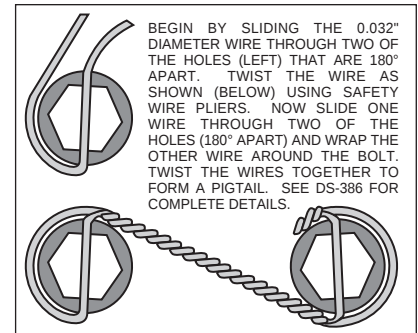

Figure 3. Safety Wire Diagram
- Apply red *Loctite*® 271 to bolt threads (2 and 3) before assembly of the caliper mounting bracket (1). Mount bracket (1) to dust face plate of spindle by screwing bolts (2) into steering arm, finger tighten only. Install bolts (3) through caliper mounting bracket (1) and steering arm, secure with washer (4) and nut (5), finger tighten only. Torque bolts (2 and 3) to 30-35 ft-lb. **NOTE:** Be sure the heads of the bracket (1) insert nuts are facing outward toward the wheel.
- Install wheel studs (6) into the hub (7). Torque to 77 ft-lb. **NOTE:** There are two five lug patterns in the hub (5 x 4.50 and 5 x 4.75). Make sure of the correct hole pattern for the correct wheel application before installing studs into hub.
- Pack the large inner bearing cone (8) with high temperature disc brake bearing grease (available from your local auto parts store) and install into the backside of the hub (7).
- Install the grease seal (9) by pressing into the backside of the hub (7).
- Attach rotor adapter plate (10) to rotor (11) using bolts (12). Apply red *Loctite*® 271 to the threads and torque bolts (12) to 25 ft-lb. For an added measure of security, the bolts may be safety wired using standard 0.032 inch diameter stainless steel safety wire as shown in Figure 3. Please refer to Wilwood's data sheet DS-386 (available at www.wilwood.com/Pdf/DataSheets/ds386.pdf) for complete safety wire installation instructions. **NOTE:** Dished side of adapter plate (10) should face hub (7). The counterbored side of the steel rotor (11) should face away from the adapter plate (10).